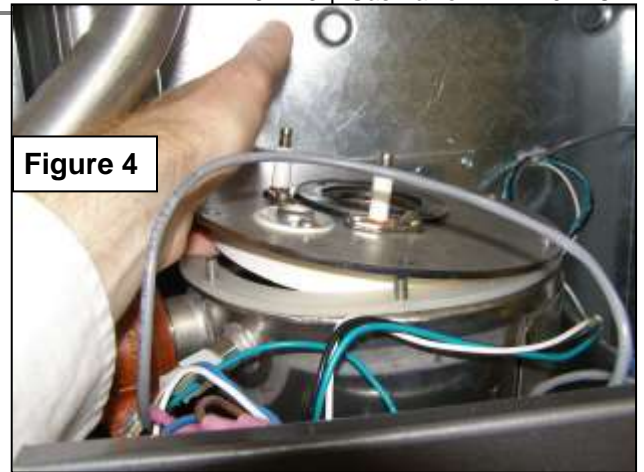

Figure 4
- 11) While holding the burner plate disk in place put the burner plate and disk back in place making sure that the openings in the plate line up with the openings in the ceramic disk. **Refer to Figure 4**